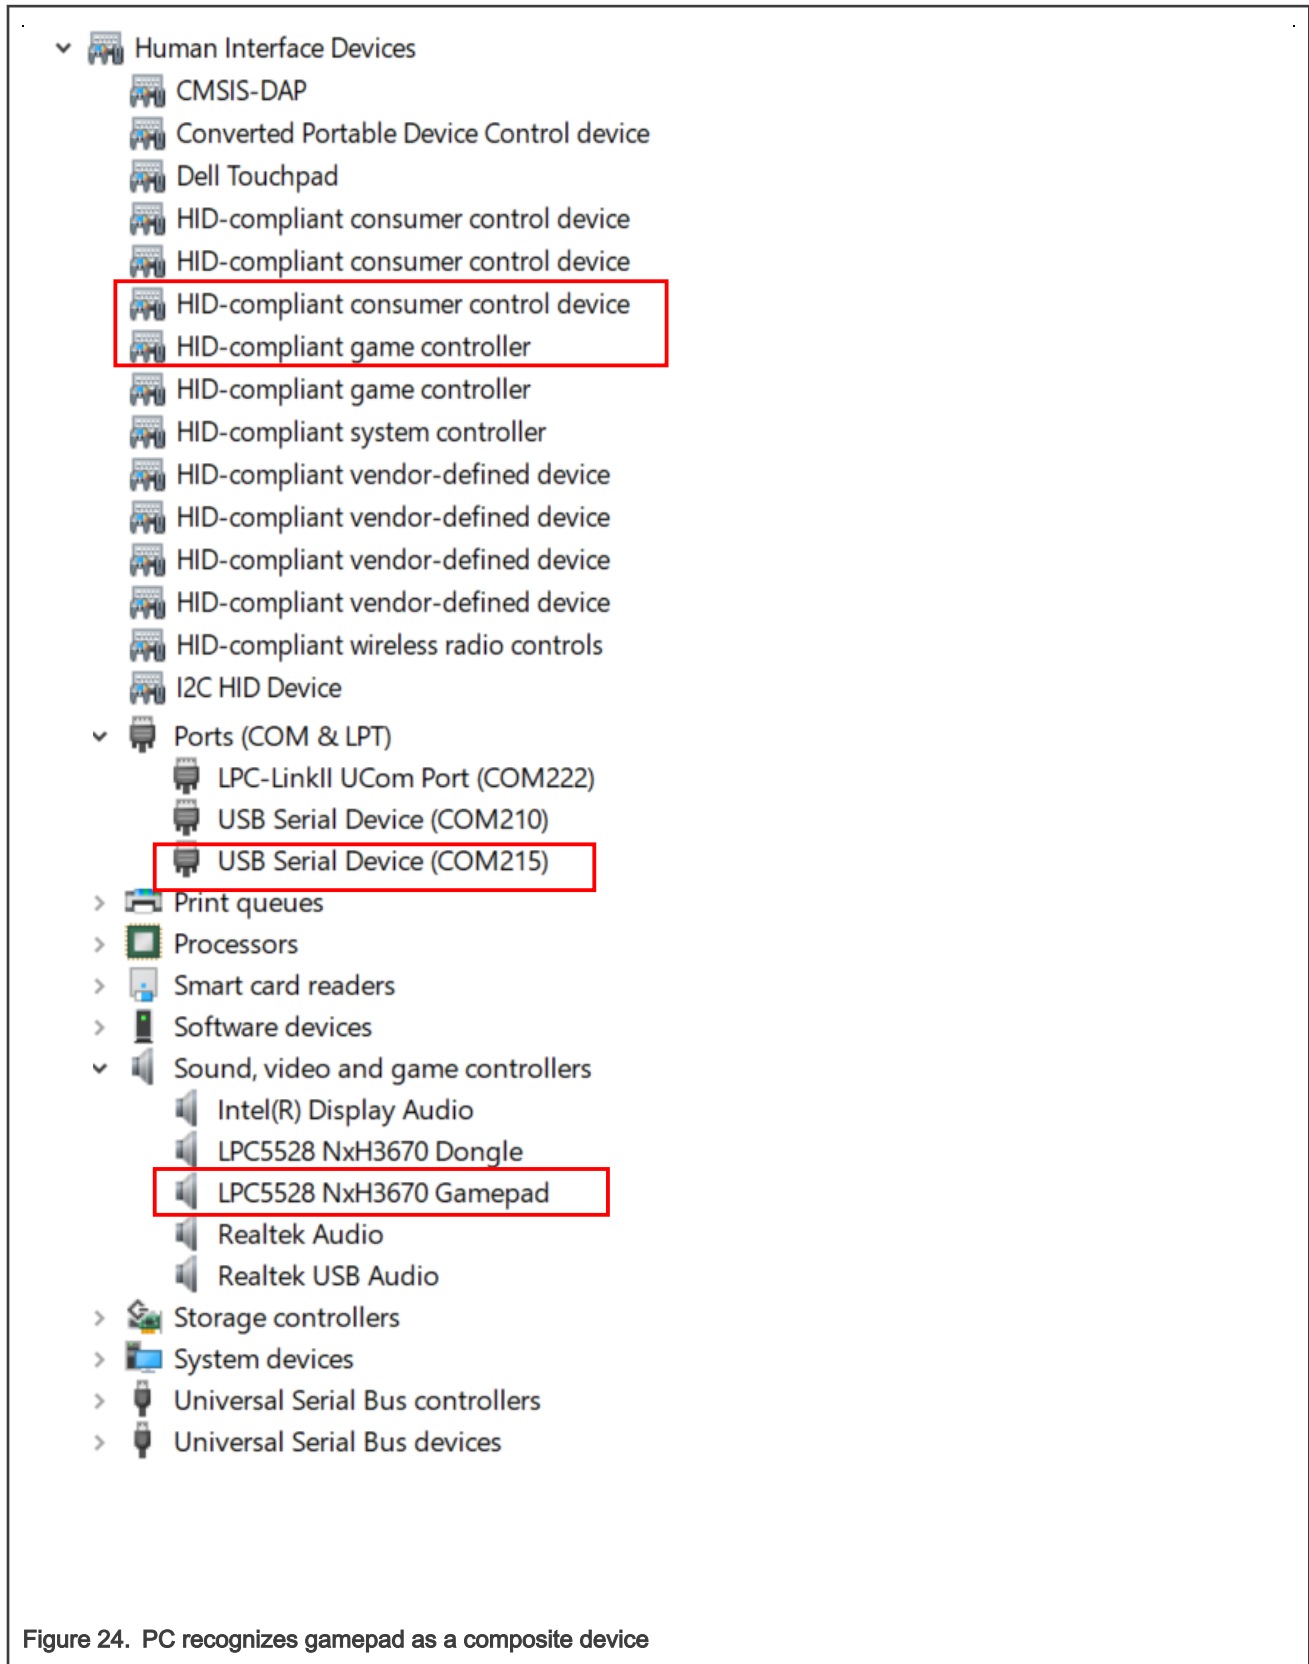

Figure 24. PC recognizes gamepad as a composite device
- Press the **START** button to try to wake up the gamepad in the low-power mode. If the red and green LED are ON, it indicates that the gamepad wakes up from the low-power mode and enters the normal run mode. By default, the gamepad works in the wireless mode. It will actively initiate the pairing process with the dongle. If the pairing is successful, the red LED on the dongle and gamepad main board will both be OFF. If the red and green led on the gamepad main board are still OFF after pressing the **START** button, it indicates that the gamepad's lithium battery is low. You need to use a micro USB cable to connect the PC and the gamepad, using the PC to charge the lithium battery. After the gamepad is started normally, the PC will recognize a composite USB device, as shown in Figure 24. Then gamepad will automatically initiate the pairing process with dongle. If the pairing is successful, the red LED on the dongle and gamepad main board will both be OFF. If the pairing process fails, the red LED on the gamepad is always ON and the gamepad is switched to the wired mode.
Connecting the PC and the gamepad with a micro USB cable and no need to use LPC5528 USB dongle board. After the gamepad is started normally, the PC will recognize a composite USB device, as shown in Figure 24. The gamepad will still initiate the pairing process with the dongle first, but the pairing process will fail because there is no dongle exist, and the gamepad automatically switches to wired mode.